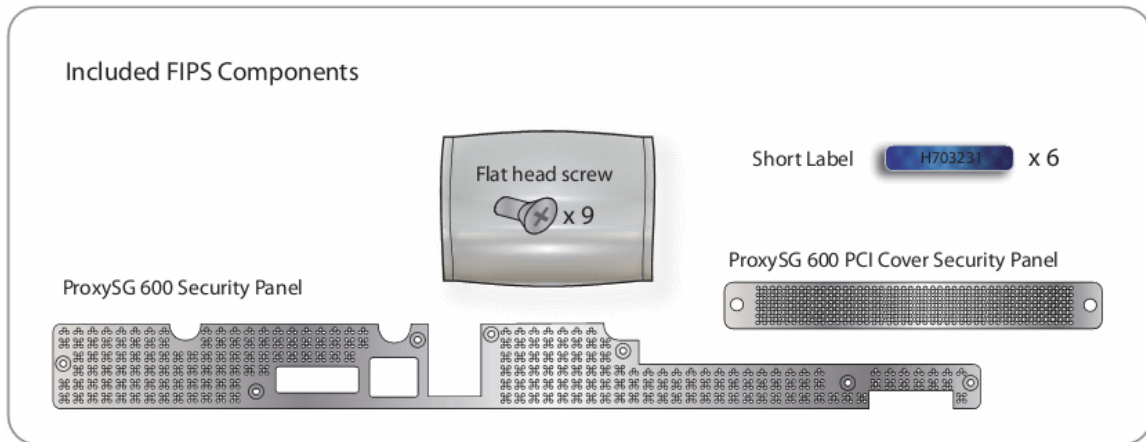

Figure 4 FIPS Security Kit Contents
Before powering-up the module, the CO must ensure that the required tamper-evident labels (included in the FIPS security kit) are correctly applied to the enclosure. The FIPS security kit (Part Number: 085-02762) consists of the following items as shown below in Figure 4.
1. The rear baffle and PCI cover (ProxySG 600 Security Panel and ProxySG 600 PCI Cover Security Panel respectively as shown in Figure 4) are designed to prevent unauthorized access to key system components by shielding the rear ventilation outlets. Note: The PCI cover is only used in appliances without an option card.